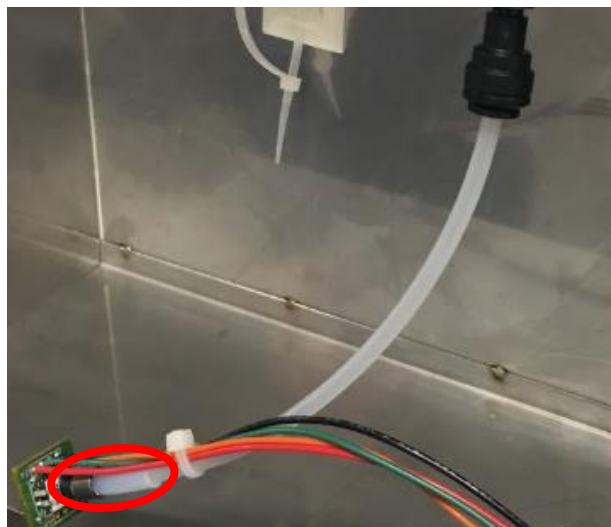

Figure 50: Pressure Transducer Leak test location.
- iv. Check the Pressure Transducer itself for leak. Cut the cable tie holding the Pressure Transducer against the foam so soap water can be applied around the barb connection on the Pressure Transducer Board. Check one pressure transducer at a time and immediately wipe all the Soap Water once test is complete. **See Figure 50**. If leak is found on the Pressure Transducer, replace the entire Pressure Transducer Assembly.